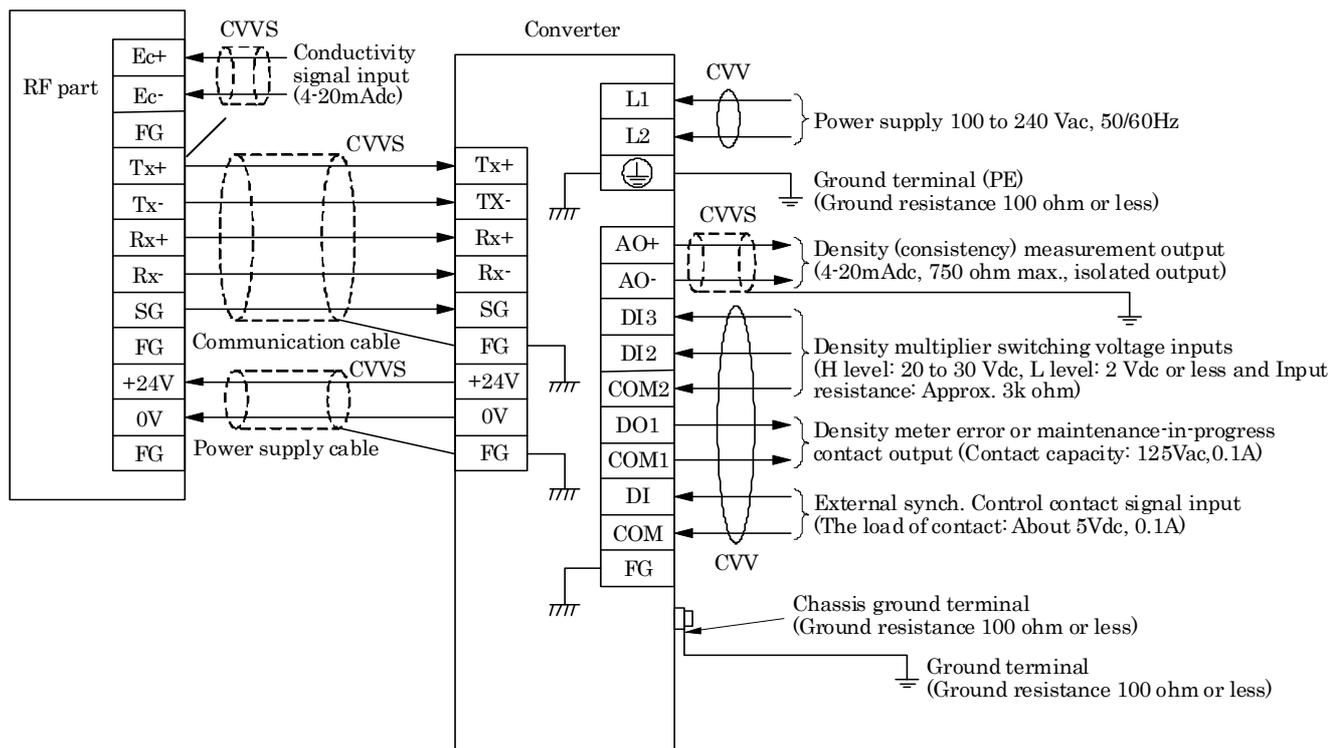

**Figure 7. Horizontal installation
- (9) To minimize the impact of the bubbles, it is recommended that the meter be installed on a location as far as possible from the pipe outlet for air release but still within the distance where a reasonable degree of hydraulic pressure is applied.
- (10) In the event that the density meter may no longer be full of the fluid while the pump is shut down or the density distribution in the density meter may become uneven, make sure to take measurements only while the pump is operating by using the external synchronized function.
- (11) Take necessary measures to prevent vibration from a pump or other equipment applied to the density meter transmitted through the piping.
- (12) On both the upstream and downstream sides of the density meter, install isolation valves. Furthermore, between these valves and the density meter, install the sampling port, the zero water supply port, the air release port, the drain port with a stop valve attached respectively. In the event that the flow of the pipe line cannot be stopped, provide a bypass pipe halfway with a stop valve attached. When performing zero point calibration, these are needed to discharge the measured matter out of the density meter through its drain port and fill up the meter with fresh water of zero density. (See Figure 6 and Figure 7)
- (13) As for gaskets to be used in piping, select the one with the dimension conforming to the flange standard and of the material appropriate for the substance to be measured.
- (14) The front side of the density meter's converter section is equipped with a density display section. When installing the meter, choose a location and direction in which this density display section will be easily visible.
- (15) If the cover of the density meter is removed or the density meter is disassembled while the meter is powered, radio waves will leak out. (However, the amount is about equal to PHS and one tenth of mobile phones.)
- (16) For both horizontal and vertical piping systems, install a support stand under the density meter with bolts put through the installation holes (M8 size) on the bottom of the density meter. Then install the support stand together with the density meter to a solid ground or wall. Bolts (four M8 bolts) are not attached as accessories of the density meter. Please prepare these bolts separately